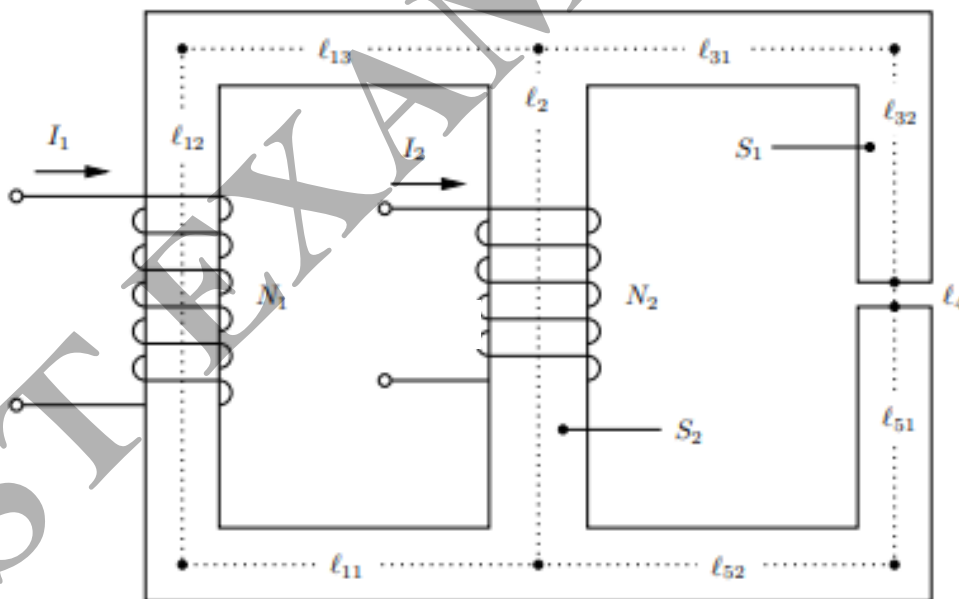

Figure Q1b
b) Figure Q1b shows an iron core of a magnetic circuit composed of three limbs, the left limb has a coil of N_1 -turns, and a middle limb with cross section S_2 and a N_2 -turn coil. The third limb on the right has an air gap of length l_4 . Left limb, right limb, the upper and lower parts of the core have all cross section equal to S_1 . The data of the magnetic circuit are as follows: